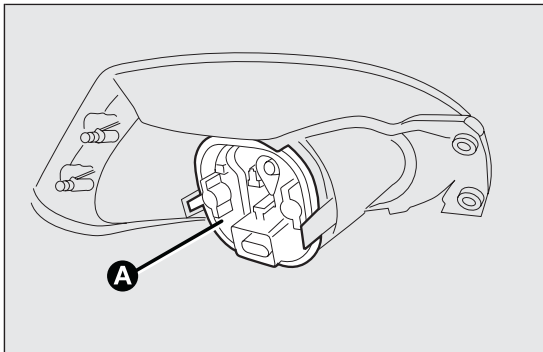

fig. 167
- ❑ disconnect the electric connector and remove the protective lid A fig. 167 by operating the three retaining tabs. Then replace the bulb concerned.